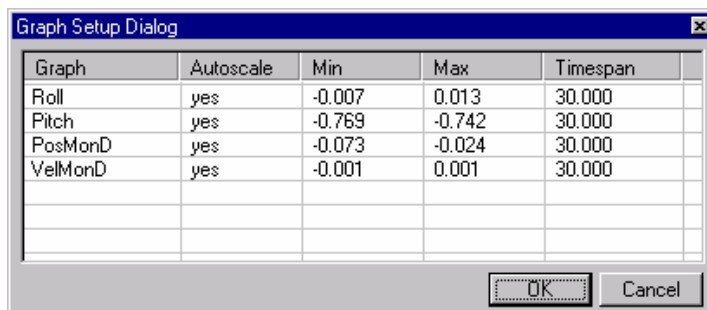

Figure 36 Graph Setup Dialog
- Click the **Graph Setup** in order to change scale and time span, see Figure 36.